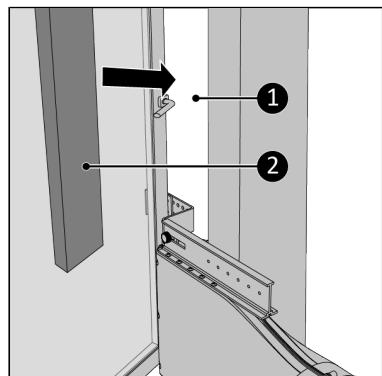

Figure 84.
17. Fill up the open spaces (Figure 84, pos. 1) with the delivered isolation foam (Figure 84, pos. 2), cut the foam if necessary*.